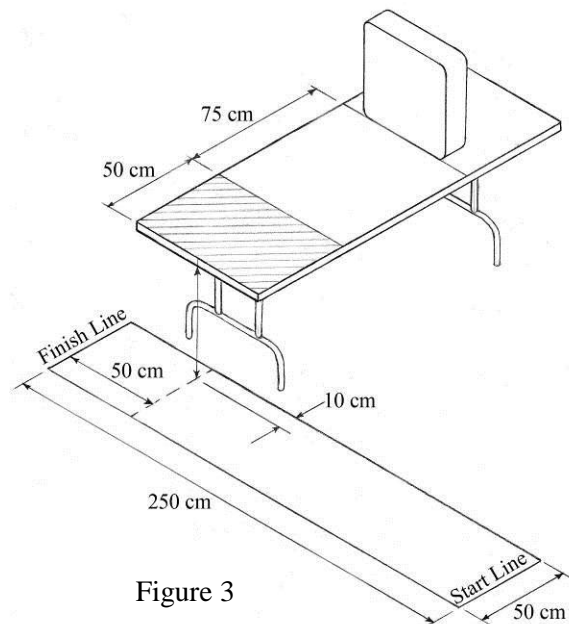

Figure 3
7. Wind-to-Vehicle (Figure 3)
- Teams will design their device to move the vehicle from behind the Start Line” to the “Finish Line” as shown in Figure 3.